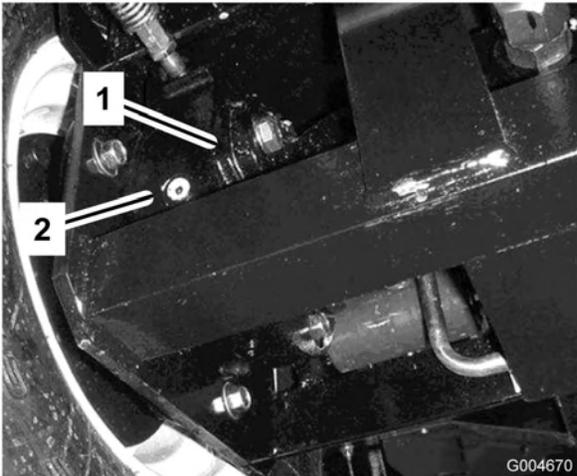

Figure 11
2. Remove the plug on the planetary (Figure 10) and check the plug on the back side of the brake (Figure 11). Oil should be at the bottom of the check plug hole on the back side of the brake.